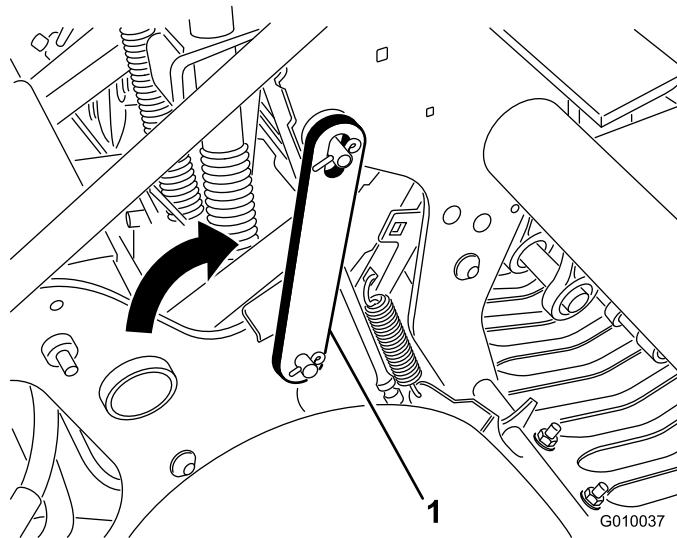

Figure 22
3. Pivot the service latch rearward and insert it onto the coring head pin (Figure 22). Secure it with the clip ring.